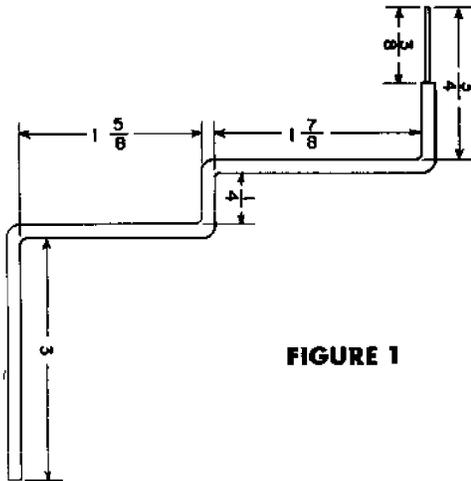

FIGURE 1
74. (✓) Cut a 13-1/2" length of RED/WHITE lead. Connect it from SW-3 lug 4 (S-1) to V3 lug 3 (NS).
75. (✓) Connect a 0.005  $\mu$ f 20% ceramic disc capacitor C16 from V3 lug 3 (S-2) to V3 lug G4 (NS). Keep leads short.
76. (✓) Cut a 14-1/4" length of RED/WHITE lead. Connect it from V2 lug 8 (NS) to R5 lug 2 (S-1). Dress the lead as shown.
79. (✓) Connect a 0.005  $\mu$ f 20% ceramic disc capacitor C14 from V3 lug 6 (S-1) to V3 lug G3 (NS). Keep capacitor leads short.
80. (✓) Connect a 0.005  $\mu$ f 20% ceramic disc capacitor C15 from V3 lug 4 (NS) to V3 lug G4 (S-2). Keep capacitor leads short.
81. (✓) Cut each lead of a 10 ohm 1/2 watt resistor (brown, black, black, silver) R13 to 1-3/4". Connect it from V3 lug 4 (NS) to V3 lug G3 (S-2).
82. (✓) Cut a 7-5/8" length of heavy YELLOW lead (#18). Prepare this lead exactly as shown in Figure 1.